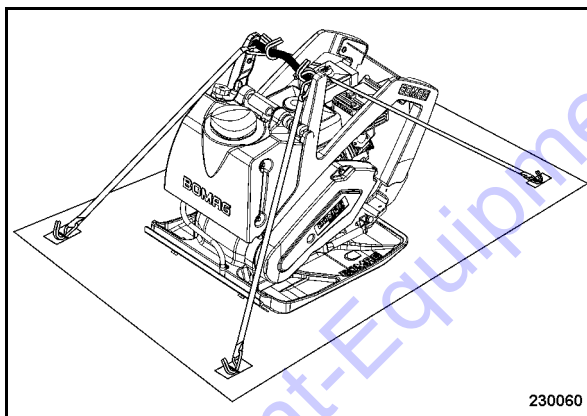

Fig. 34
- Tie the machine to the transport vehicle, fasten the lashing gear to the cross-bar (Fig. 34) on the machine.